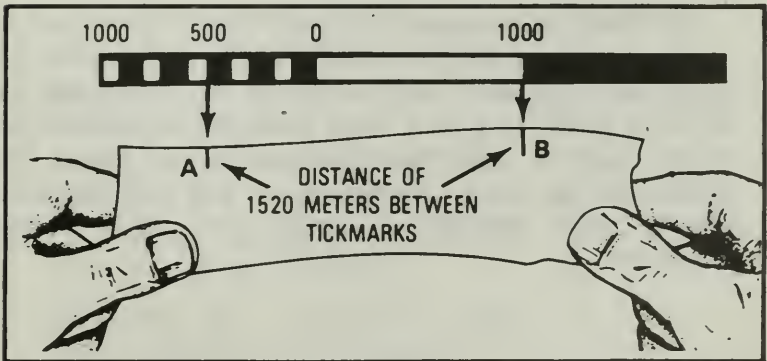

Figure 47. Determining distance.
b. Then, put the ruler or the paper just under one of the bar scales and read the ground distance in miles, meters, or yards. The bar scale in Figure 47 shows a ground distance of 1,520 meters.